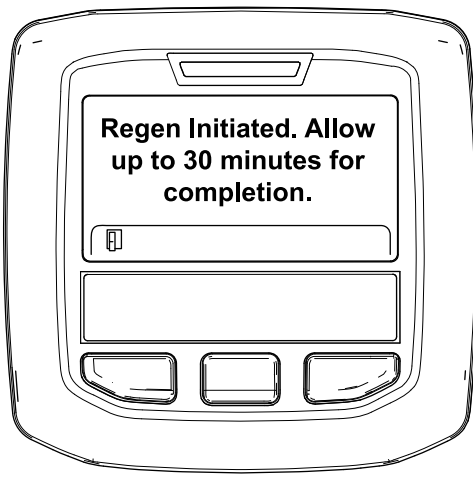

Figure 54
- If the regeneration is allowed, the "Regen Initiated. Allow up to 30 minutes for completion" message displays in the InfoCenter, wait for the machine to complete the parked regeneration process (Figure 54).